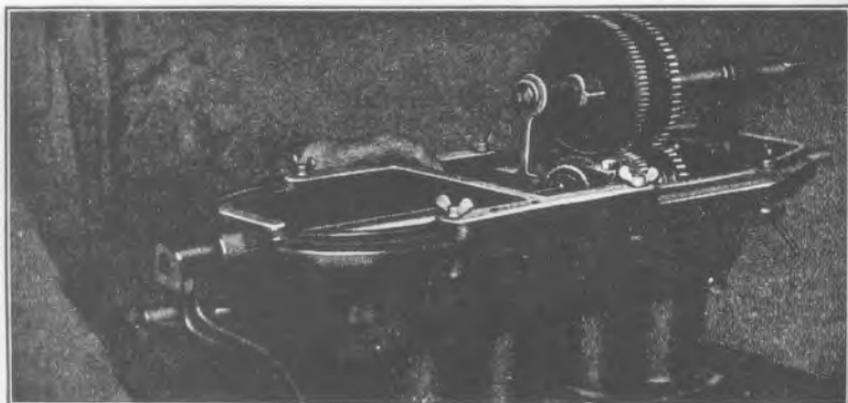

Fig. 153
- 234 To insure bearings being cut to a uniform depth, a fixture which locates from camshaft holes in each end of cylinder block should be used. An attachment is furnished so that the fixture can be operated with an electric drill. If a drill is not available a hand crank can be used as shown in Fig. 153.